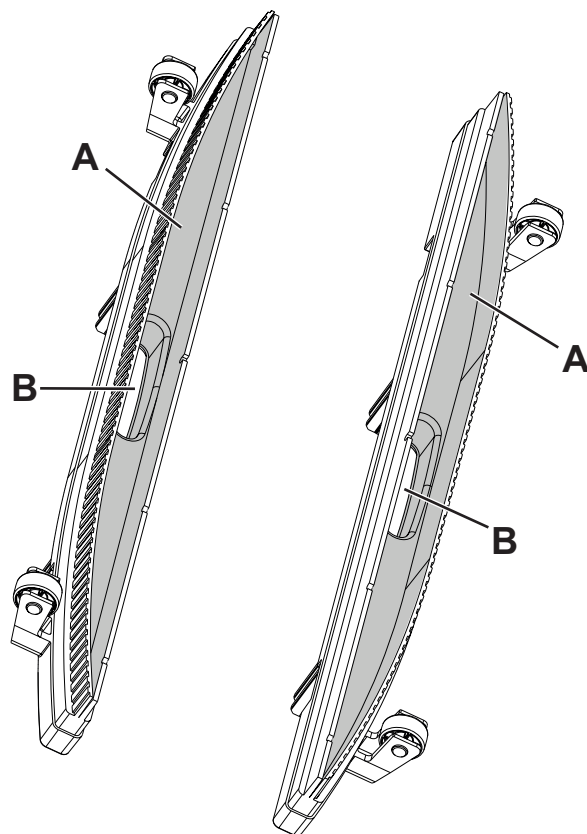

Figure 9
2. Remove the tanks container (13) from the machine body using the handle (15).
3. Lift the machine deck to access the lower part of the cleaning deck (16).
4. Remove the squeegee bars (20) by pulling outwards.
5. Clean and wash the squeegee bars. In particular, clean the compartments (A, Fig. 9) and the vacuum hole (B). Check the blades for integrity, cuts and tears; if necessary replace the squeegee bars.